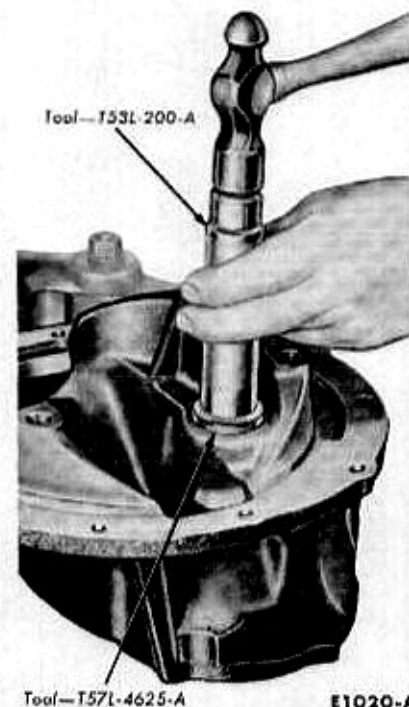

FIG. 13—Pilot Bearing Installation
10. If the pilot bearing is to be replaced, use the tool shown in Fig. 12 to drive the pilot bearing and the bearing retainer out together. To install the bearing, use the same tool (Fig. 13), and drive the bearing in only until it bottoms. With the same tool, install a new retainer with the concave side up.